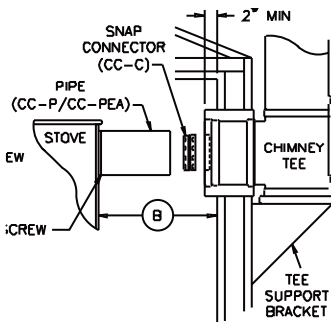

Figure 4
**BACK OPENING STOVES: (Figure 4)** Take a measurement from the center of the stove collar to the wall to determine position of the wall thimble. Snap connector into wall thimble and slide pipe over collar on stove attaching with screws.